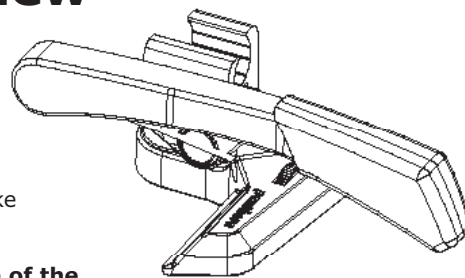

Figure 1
1. When you receive delivery of the high brake it will be assembled as shown in figure 1.